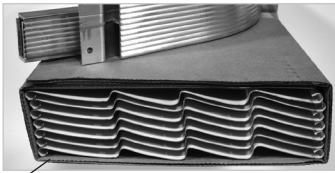

FIG. 1A
**The canopy is assembled upside down.** Note that the Slat Sections are packaged upside down (FIG. 1A). Assemble on a flat surface.